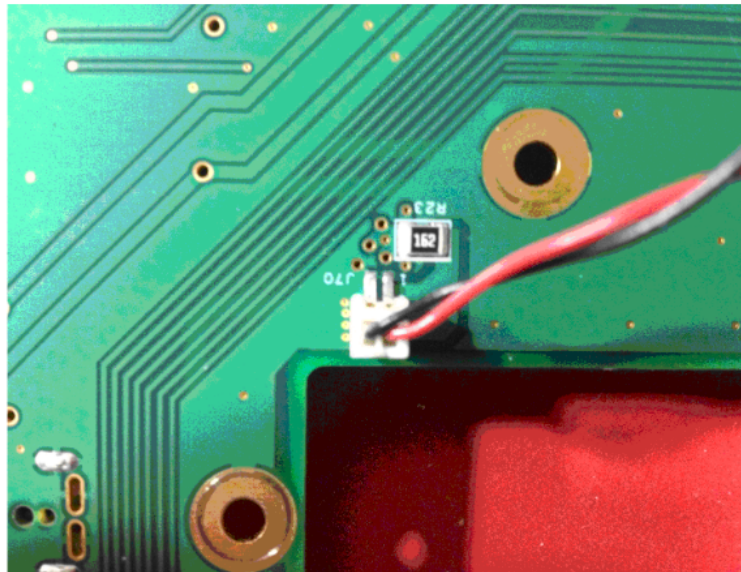

Figure 4-32 LED Wiring Assembly Connection J70
- 4 Remove the connection J70 (LED wiring assembly) from the docking station PCBA. Refer to Figure 4-32.